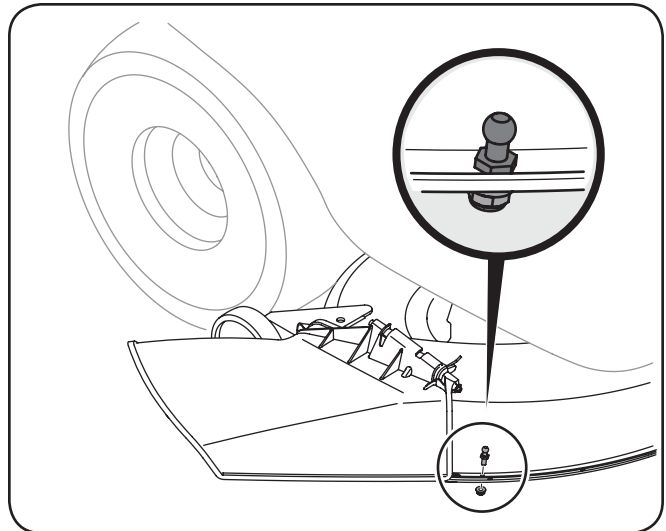

Figure 4-20
- Install the ball pin from your hardware pack into the hole in the front of the mower deck as seen in Fig. 4-20, and secure with the supplied flange lock nut.